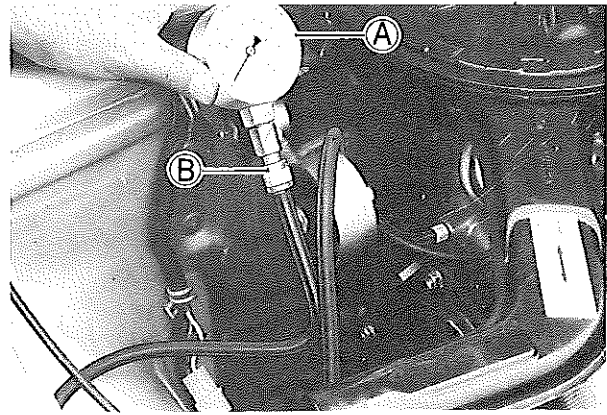

Fig. 4-158
- 2) Install the vacuum gauge (A) (09915-67310), as shown in Fig.4-158. Install an engine tachometer.